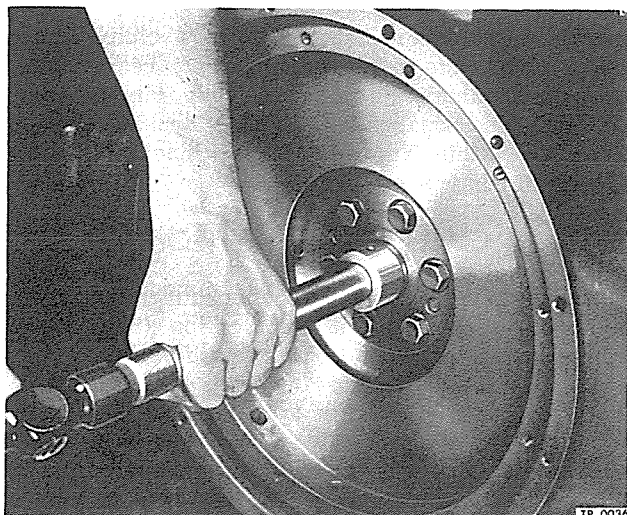

Figure 9—Typical Pilot Bearing Replacing Tool
1. Hand pack pilot bearing (42) with lubricant as specified in "Lubrication" section. Then carefully drive bearing part way into flywheel (38) using tool (K-410) as shown in figure 9. As-